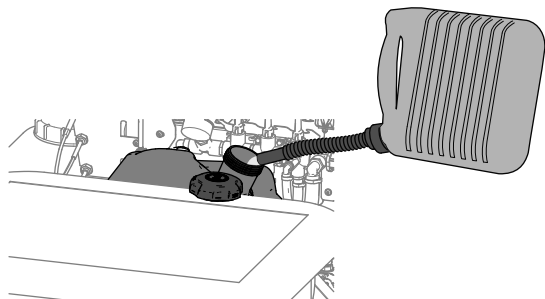

Figure 13
3. Clean around the fuel-tank cap and remove it (Figure 13).
4. Fill the tank with fuel (Figure 13) to the bottom of the filler neck. **Do not fill into the filler neck of the tank.**